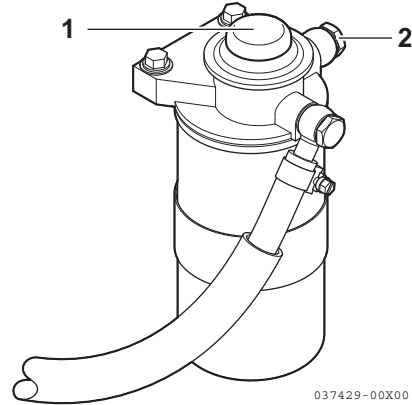

Figure 3
3. Loosen the air bleed screw (2, **Figure 3**).
4. Push up and down on the priming pump (1, **Figure 3**) to release air out of the air bleed screw.